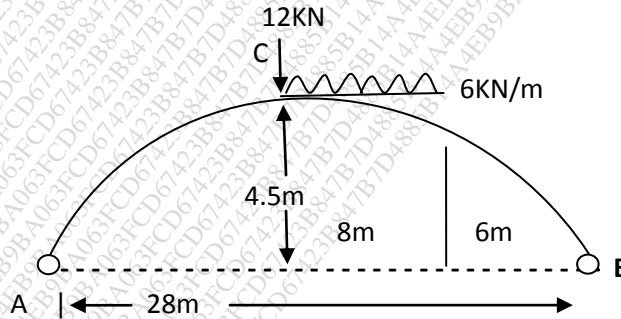

fig 7.
Q.9 A two hinged parabolic arch of span 28m and central rise 4.5 m as shown in fig 7 Find horizontal thrust and radial shear at 10m from right support. $I=I\sec\theta$.